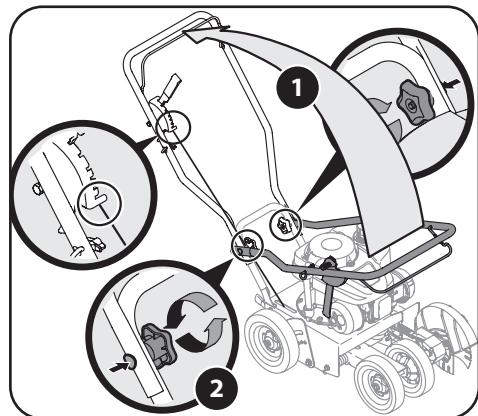

Figure 2-1
- Pivot the upper handle upward until it snaps into place. See 1 in Figure 2-1.
- Tighten the star knobs (a), which are located on both the left and right sides of the handle. See 2 in Figure 2-1.